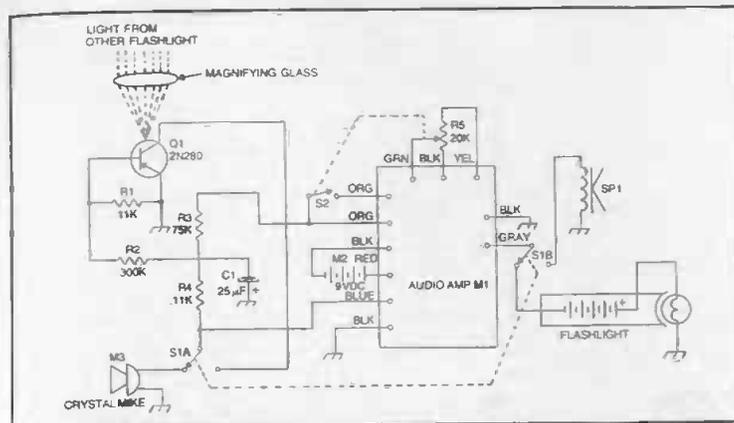

Fig. 16. Flashlight radio transmitter.
With two gadgets constructed identically from the circuit shown in Fig. 16, you can simply aim one flashlight at the other and virtually talk over the beam. In practice, of course, it's a lot easier to construct your flashlight transmitters in two sections: (1) the main unit with the magnifying lens mounted in a hole in the side of the chassis or box (to admit magnified light so as to "trigger" a 2N280 transistor), and (2) the flashlight itself connected to the transmitter by a pair of wires, yet maintaining mobility for purposes of aiming the beam. Across the area between two houses, for example, you could operate your transmitter from an open upstairs window, aiming your flashlight so as to "hit" the magnifying lens (or bullseye) of the sill-mounted transmitter in a friend's upstairs window. Particularly at night when you aren't troubled with sunlight, you can communicate over considerable distances in this fashion. It is important, however, that your flashlight beam hit the target (magnifying lens) right on the nose.